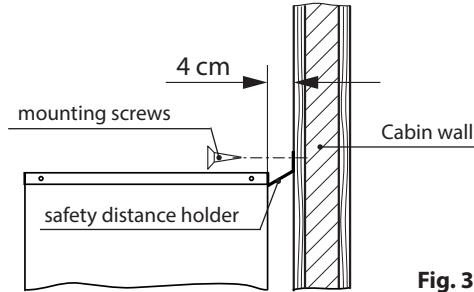

Fig. 3
- Insert the distance holder in the middle of the rear side of the heater right under the top cover of the heater and secure it with 2 included screws to the sauna cabin wall (see fig. 3)